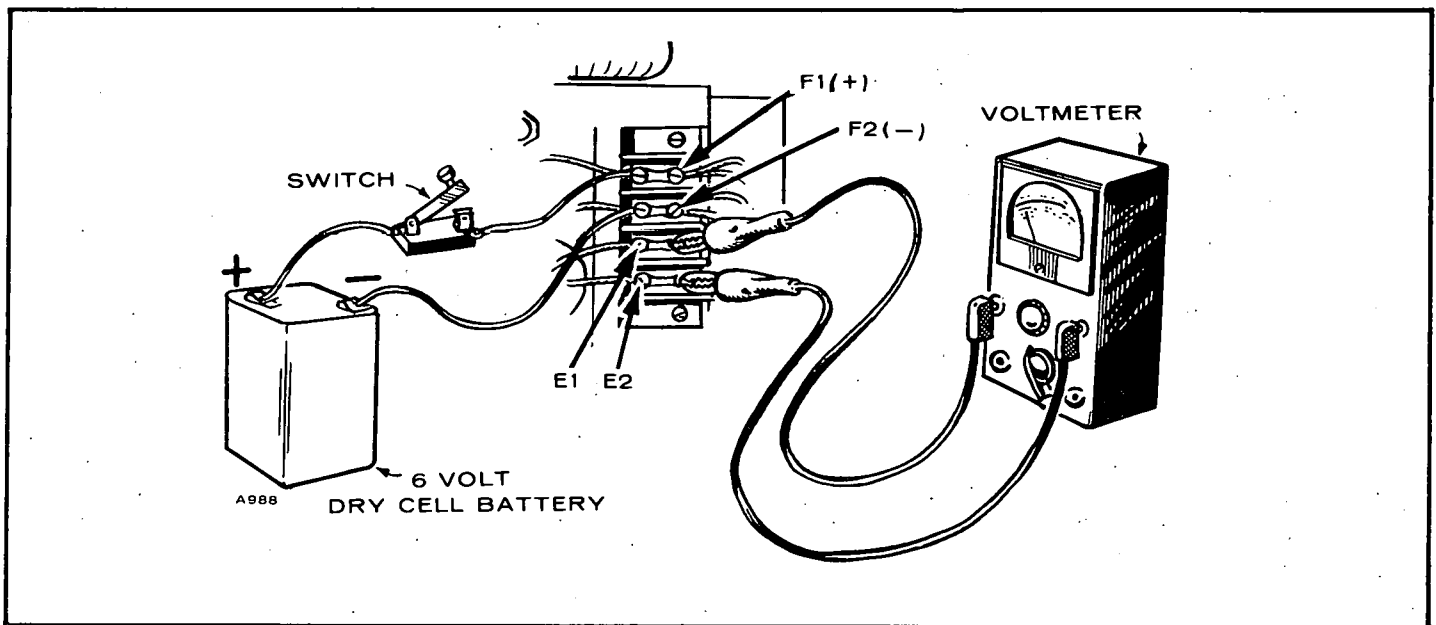

FIGURE 9. FLASHING THE FIELD
1. Using a 6 volt dry cell battery, connect leads as shown in Figure 9 (positive to F1 and negative to F2).